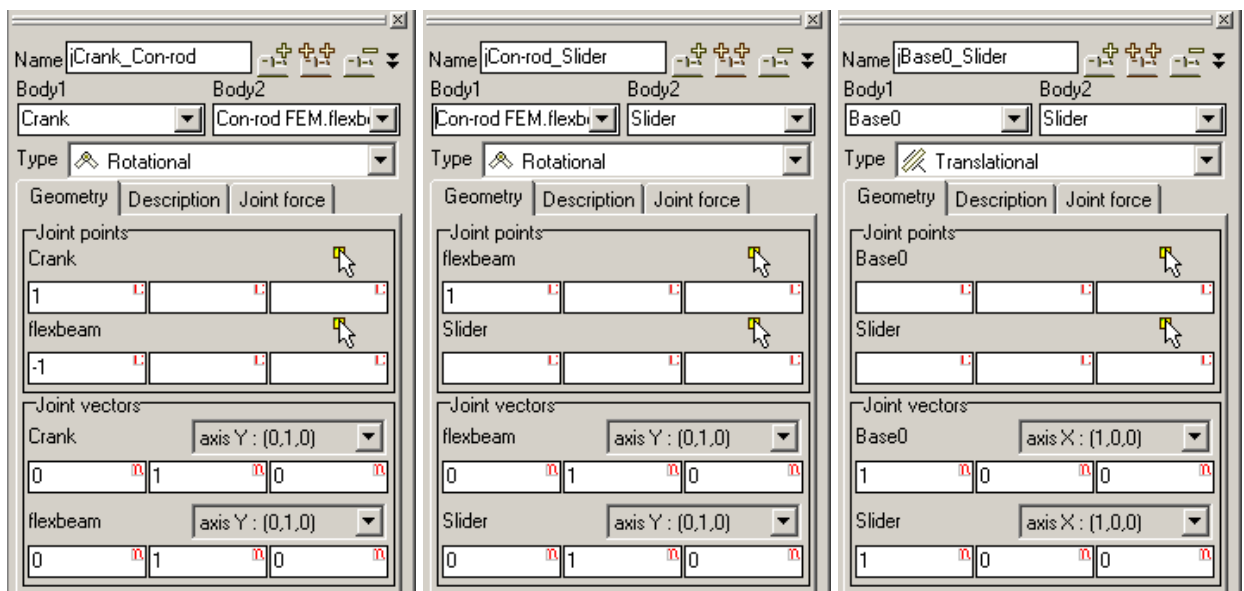

Figure 2.21.
4. Add the rest three joints as it is shown in the Fig. 2.21.